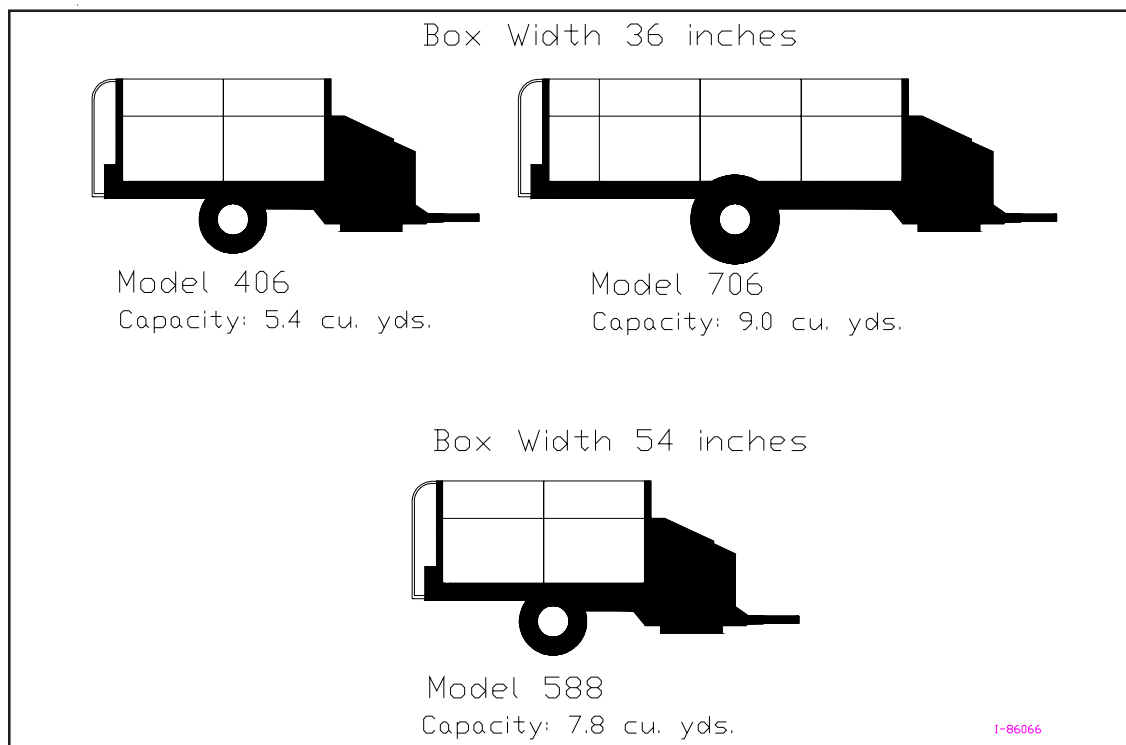

Figure 3A - Specifications for Row Mulcher Load Capacity
**CAUTION:** Be aware that each row mulcher model has a specific capacity which must not be exceeded for safe and proper operation and to prevent equipment damage. Review the basic specifications for each row mulcher model as shown in Figure 3A.